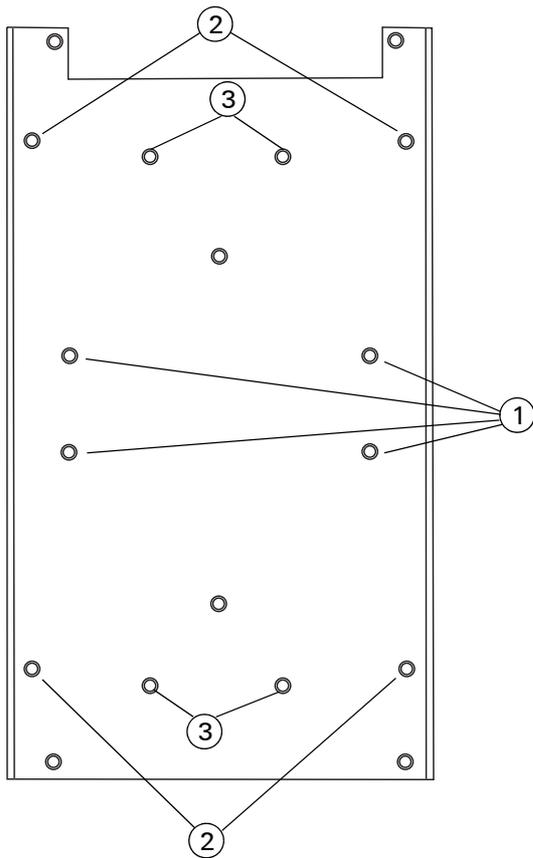

Fig. 22: CCU3/C-MXMB and MOXA Mounting Plate
- 1 Locate the mounting plate. The plate common to both units, and is shown in Fig. 22. The mounting plate is ordered separately under the order code 557.201.519 (Accessory mounting plate for CCU3).
- 2 Secure the module to the mounting plate using the screws provided. The mounting hole positions are shown in Fig. 22. For the MOXA module, use the inner set of holes in the plate. For the CCU3/C-MXMB use the outer set of holes.